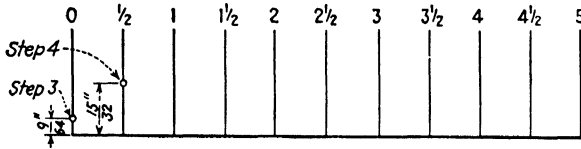

Fig. 177.
Step 3.—At station 0, the data shows that the upper camber is  $\frac{9}{8}$  in. above the datum line. Mark this point as shown in Fig. 177.